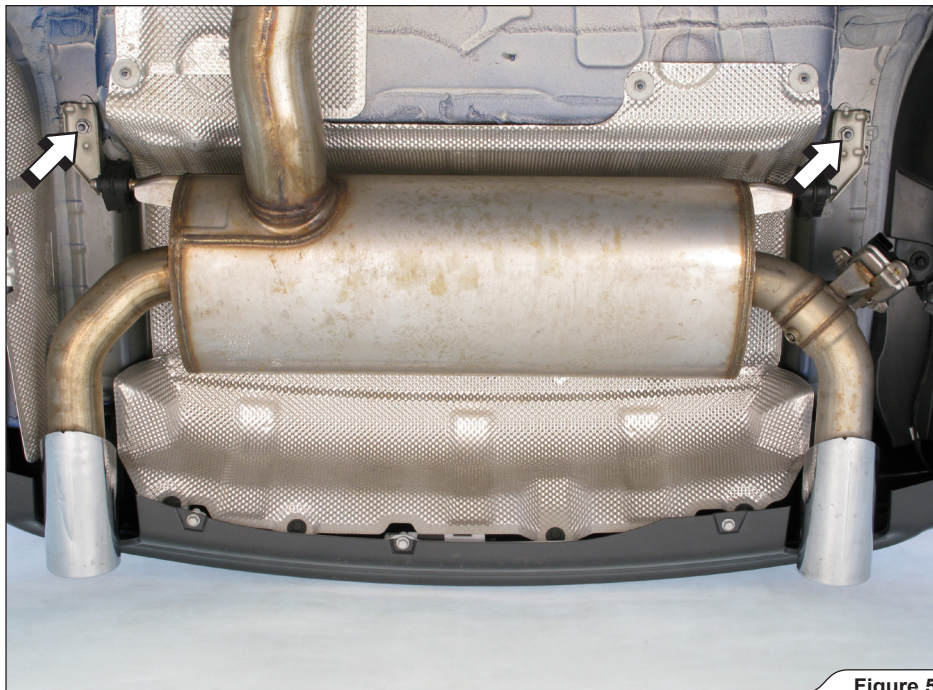

Figure 5
5. Support the exhaust system, unscrew the marked bracket nuts and carefully remove the exhaust system off the vehicle (**Figure 5**).